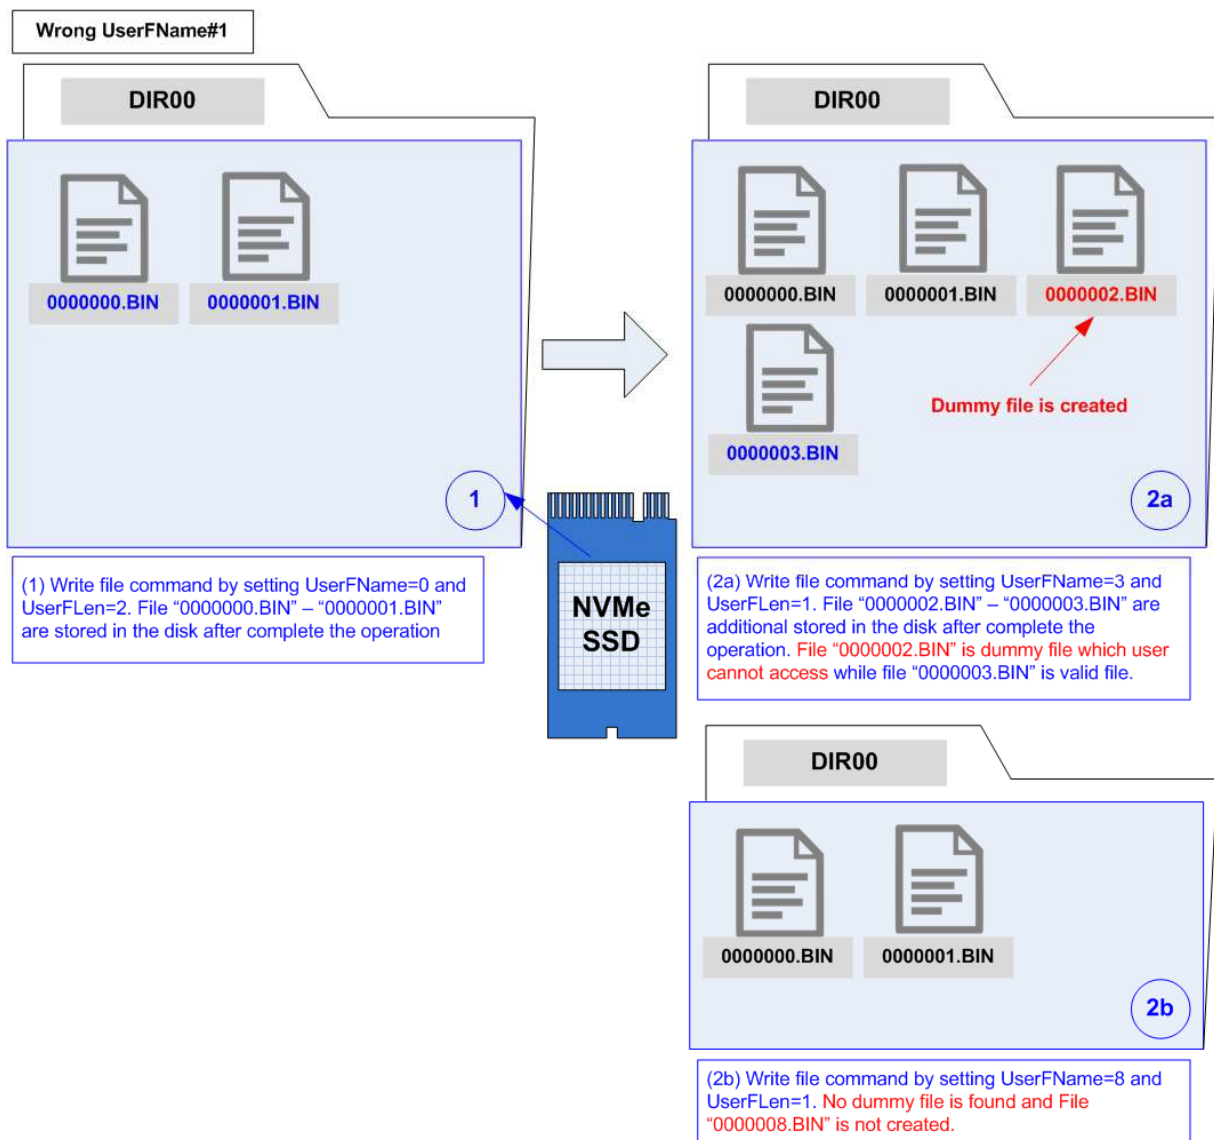
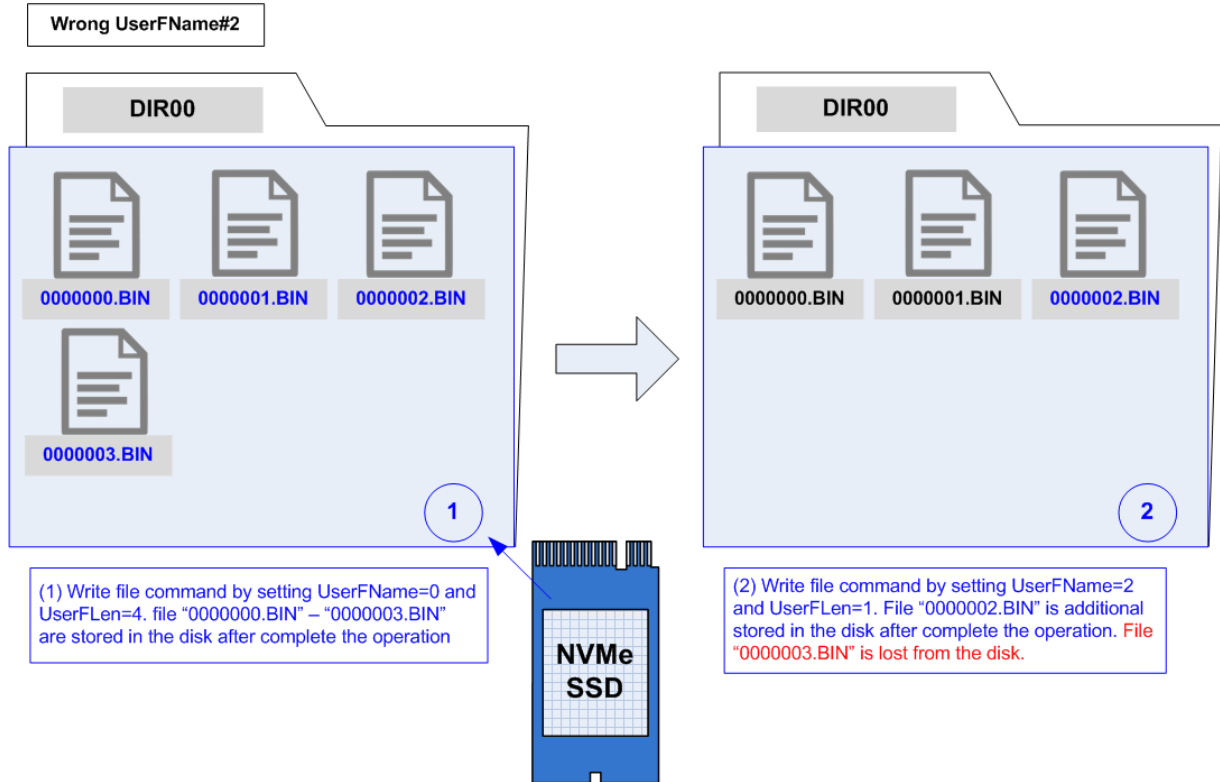

Figure 9: Write file command but UserFName is more than normal value
Figure 10: Write file command but UserFName is less than normal value
The example to set the wrong value of UserFName is shown in Figure 9 - Figure 10.
- (i) Dummy file is created between the latest write file and the new file, as shown in (2a) of Figure 9. File 0000002.BIN (dummy file which consists of random data) is generated when UserFName input is equal to 3 instead of 2 which is correct value.
- (ii) No new file is created, as shown in (2b) of Figure 9. If UserFName input is much skipped than correct value, there is no new created file. For example, UserFName is equal to 8 instead of 2 which is correct value.
- b) When UserFName is less than (the latest write file name + 1), some old files which are more than UserFName may be deleted, as shown in Figure 10.